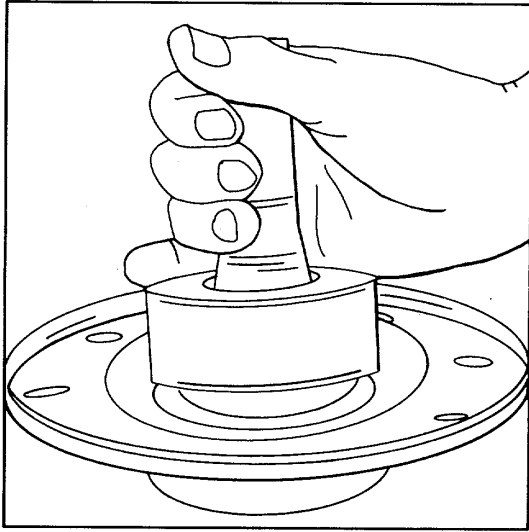

Figure 3.
13. Lubricate pinion shaft oil seal and cover outer edge of seal body with a non-hardening sealing compound. Press seal against cover shoulder with seal driver (refer to Fig. 3).